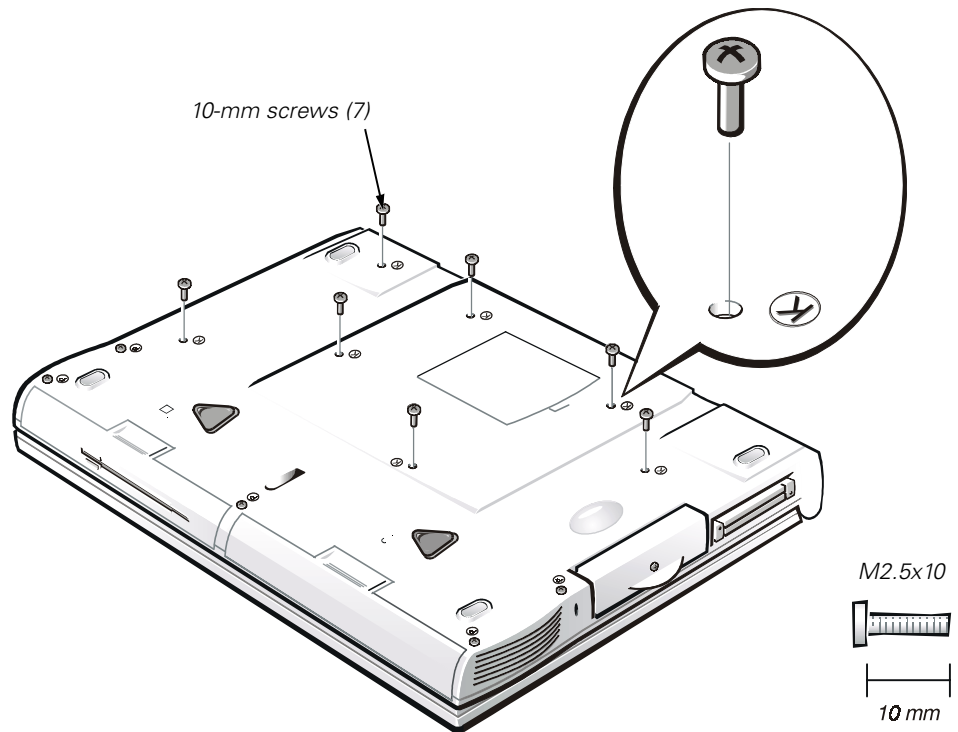

Figure 9. Removing the Keyboard Assembly Screws
2. Remove the seven 10-mm screws, labeled with a "circle K," that secure the keyboard to the computer (see Figure 9).